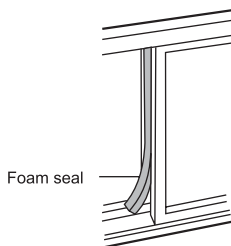

Fig.17
5. Cut the foam seal to an appropriate length and seal the open gap between the top window sash and outer window sash. See Fig.17.